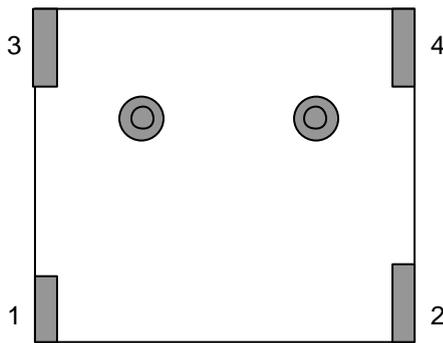

Figure 39
12. With the D table at its upper limit, set the PALLET PASS CHECK (5) sensor volume to half. I/O: D1 (X08A), D2 (X0A0). (Sensor (6) is only used on CP-732. No adjustment required)
16. Pull out the pallet and lock it onto the PCU Unit. Then, grease up the bottom section of the D-table with AFC grease at the hi-lighted areas in Fig.39 on the following page.
**Apply AFC grease to the locations hi-lighted (Fig. 39) on the D-table base.
20. Place two 0.6mm spacers at positions 1 and 2 shown in fig. 39. (CP732/733 ONLY)
22. Set the front side PALLET SETTING CHECK (2) sensor so that it turns OFF with the 0.6mm spacers in place and ON with 0.4mm spacers in place. I/O: D1 (X088), D2 (X09E) (CP732/733 ONLY)
23. Place 0.6mm spacers at positions 3 and 4 shown in fig. 39, then set the back PALLET SETTING CHECK (1) sensor so that it turns OFF with the 0.6mm spacers in place and ON with 0.4mm spacers in place. I/O: D1 (X087), D2 (X09D).
24. Remember to check the PALLET ARRIVE CHECK sensor (3). Check that it is ON when the D-table is at the upper limit. I/O: D1 (X086), D2 (X09C)
25. For the D-axis notch stopper adjustment (4), Make sure the D pulse count is zero pulses. Move the stopper bracket so the piston aligns with the center of the notch in the D- table.
26. Set the TABLE STOPPER LOCK CHECK and UNLOCK CHECK sensors (5) 0.5mm toward the position they turn ON.